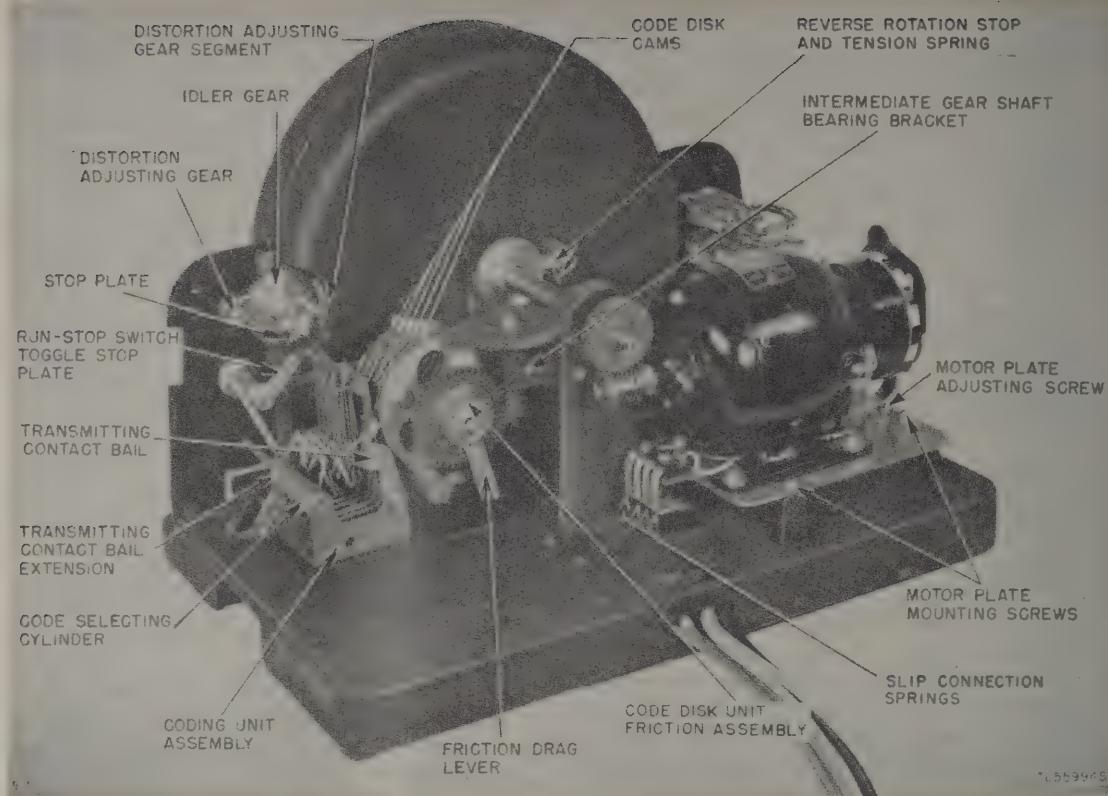

Figure 21. Distortion Test Set TS-388/GG, left rear view, cover removed.
81. Intermediate Gear Shaft Bearing Bracket (figs. 21 and 22)
82. Distortion Adjusting Gear Segment (fig. 21)
a. **REQUIREMENTS.** (1) With first one and then the other distortion adjusting idler gear stud against the stop plate, the teeth of this gear should mesh with its associated gear segment so that the mesh is equalized (within one tooth) between the extreme limits of travel of the gear segment.
(2) *Adjustment.* Loosen the coding unit mounting screws. The heads of these screws can be reached only from underneath the base. Position the coding unit (fig. 21) and tighten the mounting screws.
89. Run-Stop Switch Toggle Stop Plate Spring (figs. 21 and 22)
90. Transmitting Contact Bail Spring (fig. 21)
91. Code Disk Shaft (fig. 21)
92. Code Disk Phasing (figs. 21 and 25)
93. Code Disk Unit Friction Assembly (fig. 21)
95. Outer Ring Brake Torsion Spring (fig. 21)